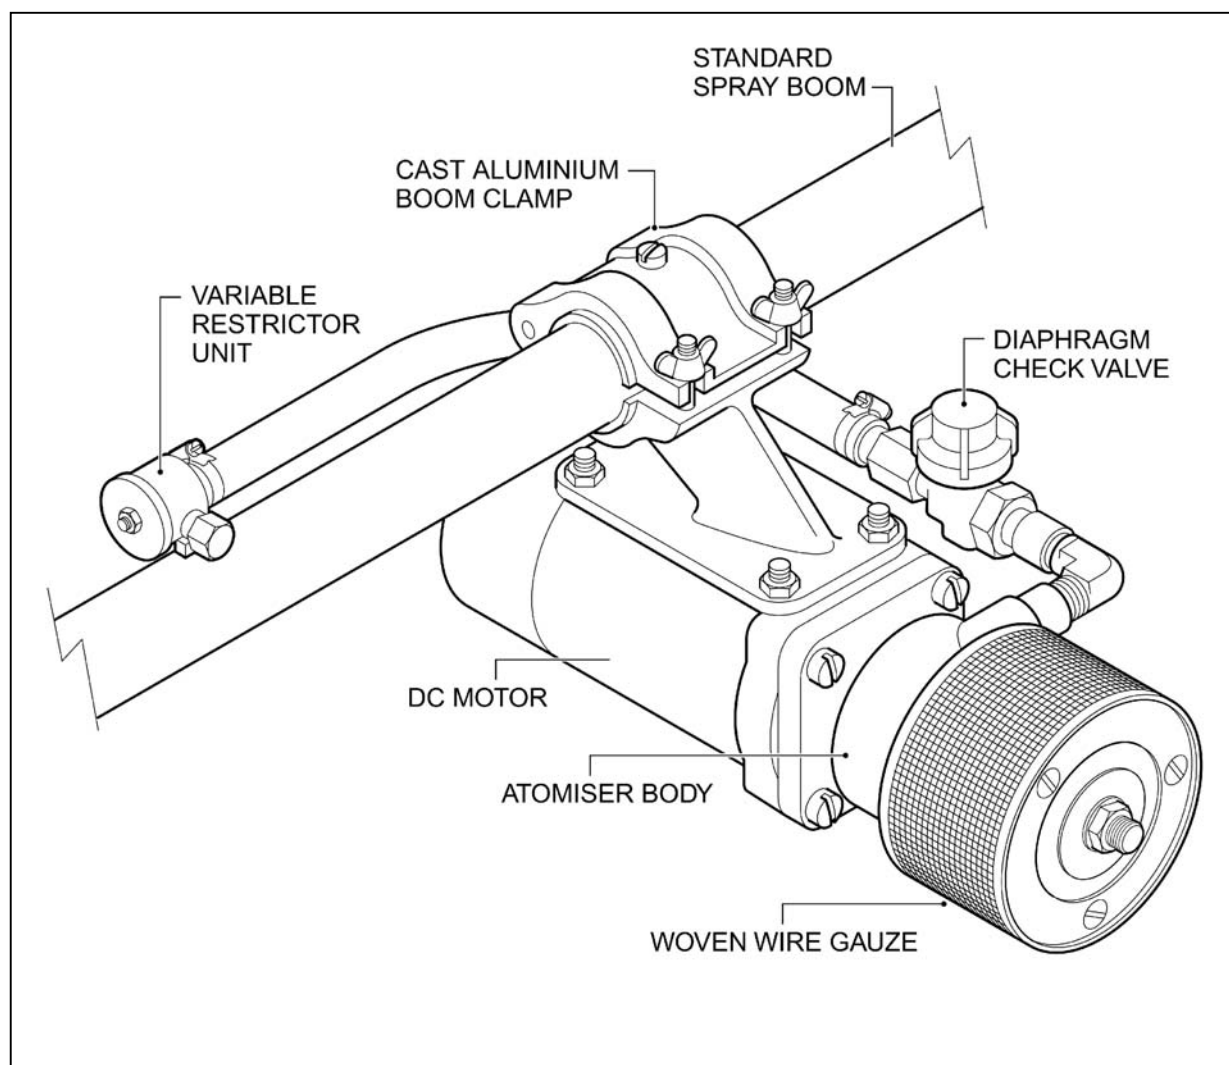

Fig. 1 – Typical Installation of Direct Drive Electric Atomiser
These instructions describe a typical installation as shown in Fig. 1 and are provided as an example only. Details of the installation may vary with boom configuration.
2. With the cap nut still in position on the stem of the outlet adaptor (6), screw the adaptor into the feed elbow of the atomiser. Seal the thread with the PTFE tape provided.
3. Screw the cap nut back onto the diaphragm check valve body, ensuring that the filter (4) is in position inside the valve body and that the valve cap faces upwards to minimise chemical spillage when it is opened.
4. Locate a suitable nozzle hole adjacent to each atomiser for the mounting of the VRU (see Fig. 1). The positions should be chosen so that the hoses between the VRUs and the atomisers will not kink or chafe on the clamps. The VRUs feeding the outboard atomisers should be fitted as close as possible to the ends of the booms to prevent air pockets forming in the outboard ends of the booms.
6. Screw the inlet fitting of each VRU into the nozzle hole identified in step (4) above, ensuring that the outlet hose fitting faces towards the atomiser. Seal the thread with PTFE tape. Some streamline section spray booms have nozzle holes recessed into the trailing edge. This may cause the VRU body to touch the boom before the thread tightens. Should this be the case, it will be necessary to fit stand-off adaptors EX2313 between the boom and VRU inlets.
7. Connect each VRU outlet to the corresponding check valve inlet with the 1/2" flexible hose (CBP991) and hose clips (CBP11) provided. See Fig. 1 for details. If necessary, secure the hose to the boom or clamp with plastic cable ties to prevent it from moving or chaffing. Do not over-tighten the cable ties to prevent crushing the hose.